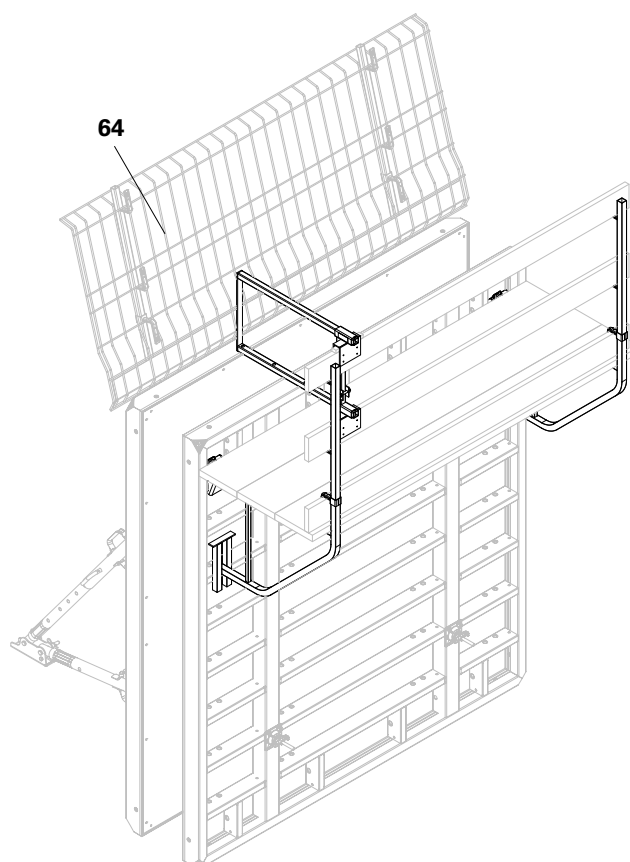

Fig. A13.08
4. Attach side protection, e.g. FTF End Guardrail Frame (64). (Fig. A13.08)